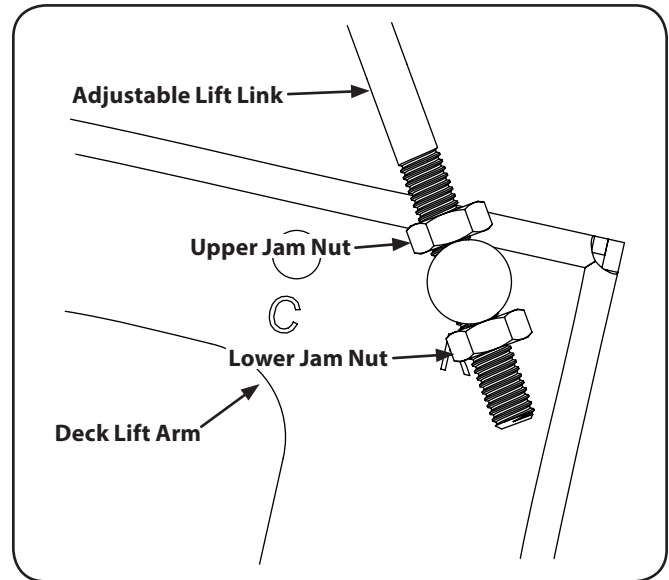

Figure 6-5
3. Loosen the lower jam nut on the adjustable lift link attached to the deck lift arm to lower the deck and tighten the upper jam nut to secure the deck in place, loosen the upper jam nut then tighten the lower jam nut to secure the deck in place. See Figure 6-5.